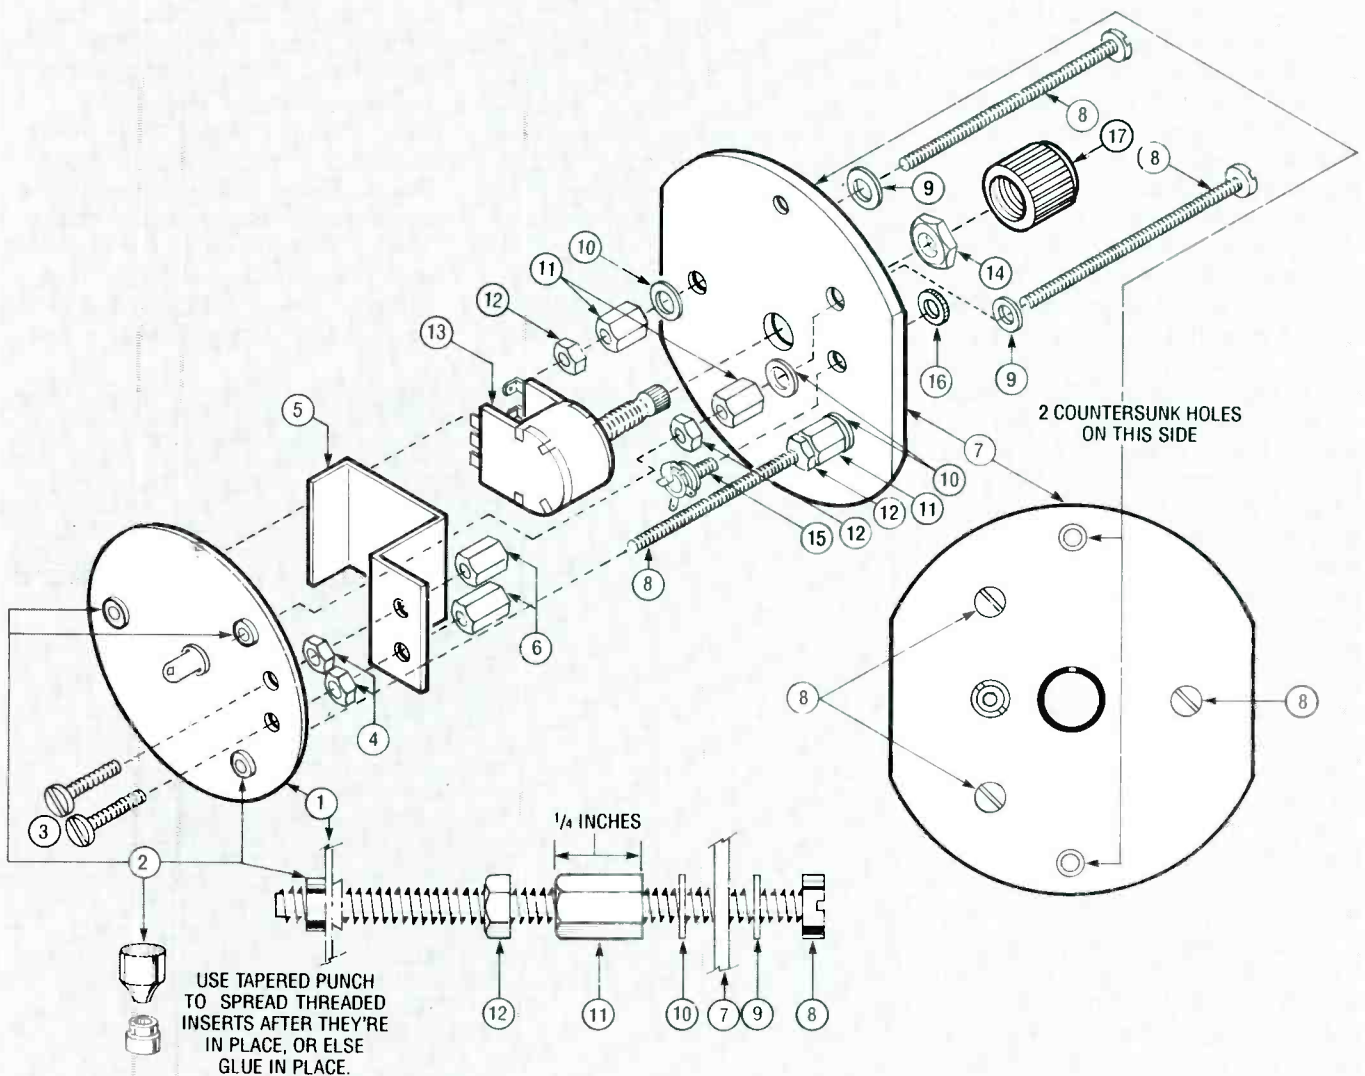

FIG. 1—THE TRANSMITTER is assembled as shown. Look over the assembly instructions carefully before starting the project.
Let's start our mechanical assembly with the transmitter. As shown in Fig. 1, take the completed PC board (1) and install the three rivet-like threaded inserts (2). That is normally done by first inserting the narrow end of an insert through each of the three holes on the edge of the PC board. (The narrow end should now be protruding on the solder side of the board.) By resting the wide end of the insert on a *solid* surface, the narrow end is spread apart, by giving it a whack with a tapered punch. Otherwise, you can use some *Krazy Glue* or RTV silicone to secure them to the board.
(3), insert them in the proper holes, and secure them with a nut (4). Then place the battery holder (5) over the ends of those screws as shown in Fig. 1, and secure the battery holder with two 3/8-inch long threaded spacers (6). (The battery is held down by tightening those spacers with the battery in place. Just be sure that the battery has some foam-rubber tape or other insulating material on the side to be pressed against the PC board. That will prevent any of the component leads from being short-circuited.)
PARTS LIST FOR THE TRANSMITTER (FIG. 1)